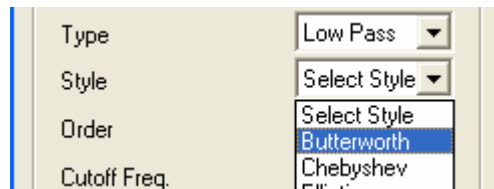

Figure 12:
29. Selecting a Filter type will activate the next dropdown menu, **Style**. From this menu select a **Butterworth** filter as shown below in Figure 12.